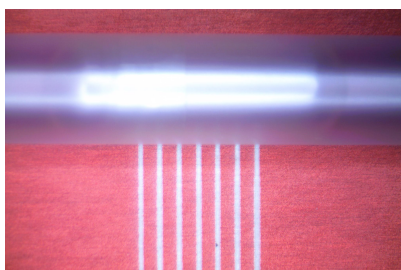

Figure 1: Gelatin capsule within new standard sample holder.
- Compatible with the currently offered gelatin (AGC1; see Figure 1), and polycarbonate (AGC3) capsules.